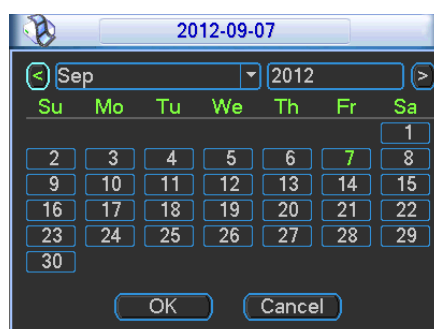

Figure 3-39
- Record types: There are four types: regular, motion detection (MD), Alarm, MD & alarm.
- Holiday setting: Click it you can see an interface shown as in Figure 3-39. Here you can set holiday date. Check the box, it means current channel shall record as your holiday setup. Please go to the Period interface to set the holiday date record setup.